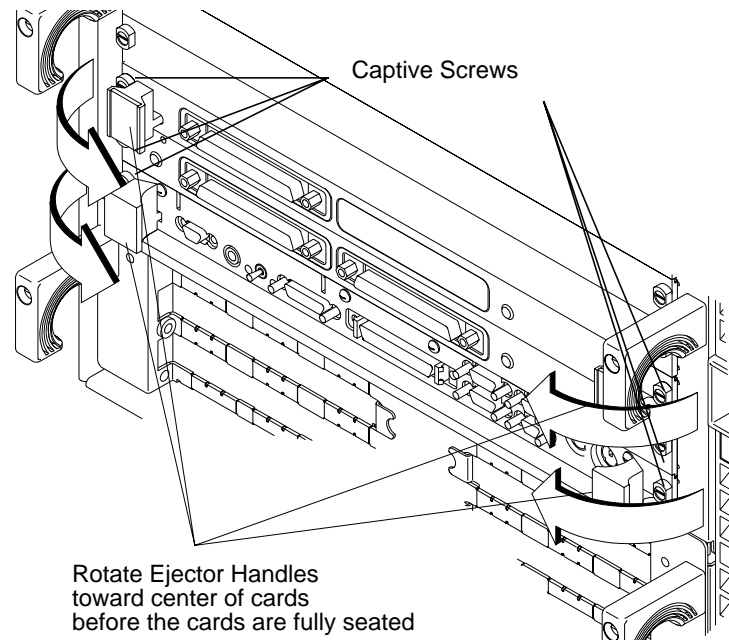

Figure 14
- 22 Engage all captive screws before tightening each screw of the board computer and PMC adapter(s). See Figure 14.